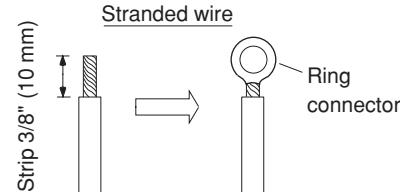

Fig. 28
- (1) Cut the wire end with a cutting pliers, then strip the insulation to expose the stranded wiring about $3/8"$ (10 mm) and tightly twist the wire ends. (Figs. 28 and 29)
- (2) Using a screwdriver, remove the terminal screw(s) on the terminal plate.
- (3) Using a ring connector fastener or pliers, securely clamp each stripped wire end with a ring connector. (Fig. 28)